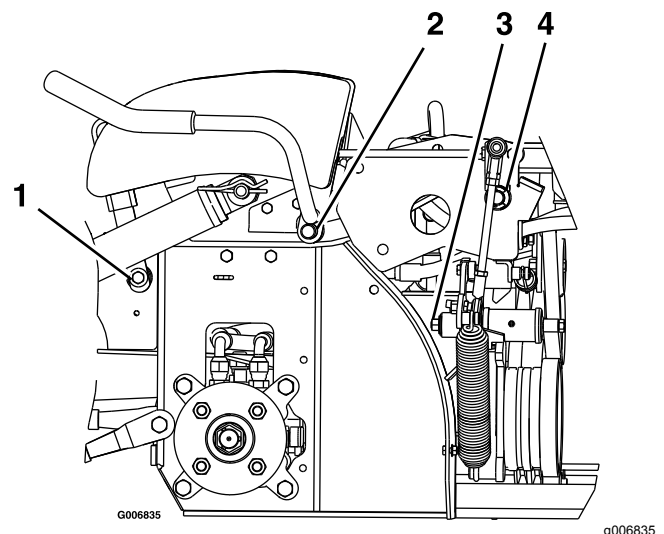

Figure 27
2. Lubricate the bronze bushings on the brake-handle pivot with a spray type lubricant or light oil (Figure 27).